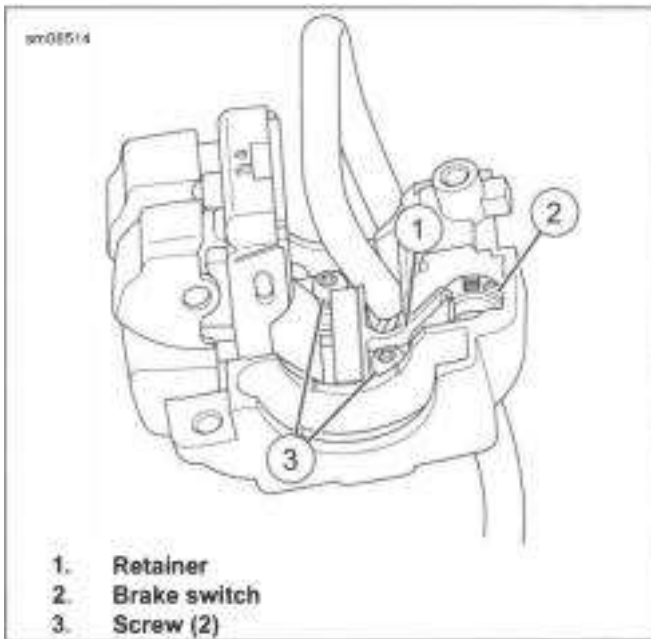

Figure 7-25. RHCM and Brake Switch Retainer
- c. See Figure 7-25. Remove screws (3) and retainer (1).
- d. Remove brake switch (2) and RHCM from lower switch housing.
3. See Figure 7-25. Place switch assembly into position on lower switch housing. Install brake switch (2).
See Figure 7-25. Install retainer (1) with screws (3). Tighten.
2. See Figure 7-25 . From inside the switch housing, remove screws (3) and retainer (1).
3. Remove brake switch (2) from housing.
9. See Figure 7-25. Install brake switch (2) into housing. Install retainer (1) and screws (3). Tighten.